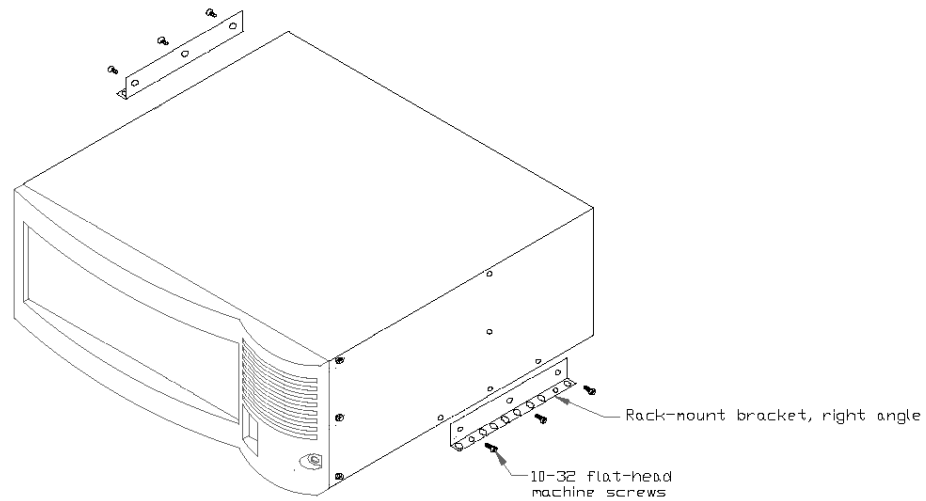

Figure 6. Installing Wall-Mount Brackets
2. Remove the three bottom 10-32 pan-head machine screws from each side of the VSR-2 chassis as illustrated in Figure 6.